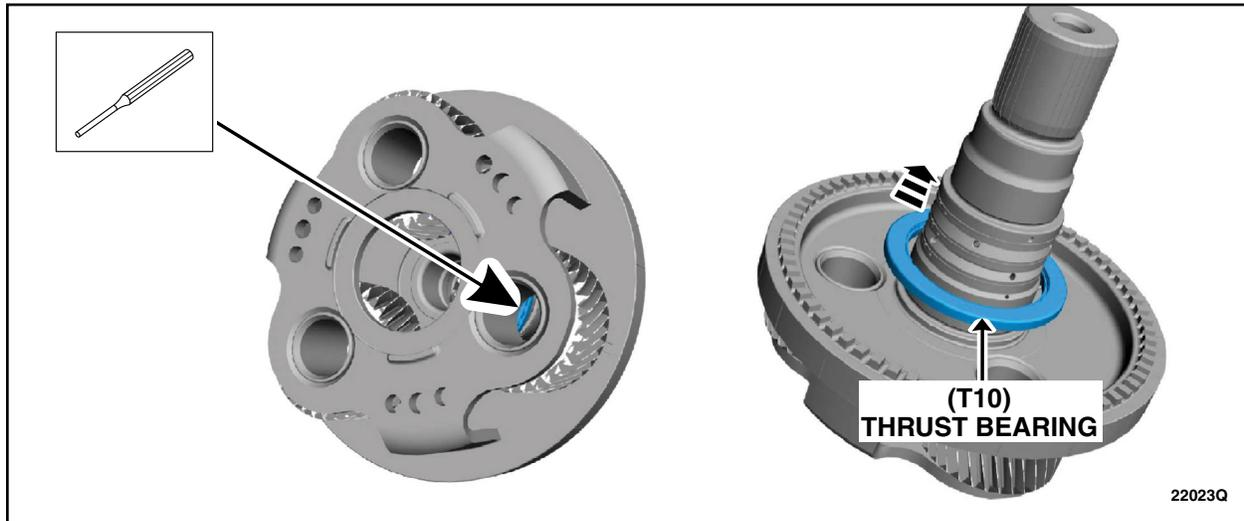

FIGURE 23
26. Using a punch, carefully tap the bearing from the rear race to release the clip, and remove the (T10) thrust bearing. See Figure 23.